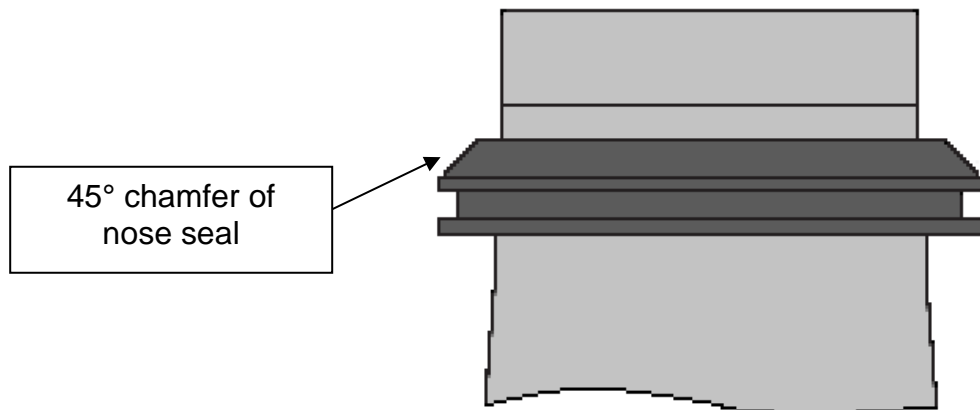

Figure 8: Nose Seal Placement
- 4.1.1 After removing the valve from the packaging, verify the nose seal is appropriately orientated on the insert nose. The 45° chamfer of the nose seal should be facing out (Figure 8).